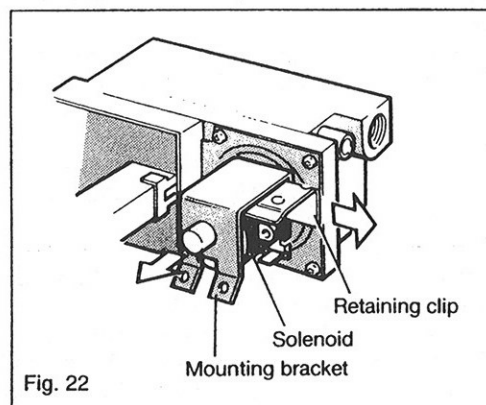

Fig. 22
#### 5.11 To replace the 60 B gas valve solenoid - see Fig. 22.
3. Carefully prise out the retaining clip from behind the solenoid and lift off the solenoid and its mounting bracket, see Fig. 22.